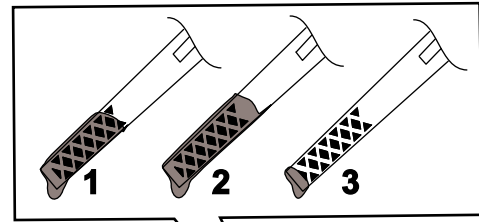

Figure 6
2. Remove the dipstick (Figure 6).
3. **Slowly** pour oil into the oil fill hole, wait a few minutes, and check the oil level on the dipstick by wiping the dipstick clean and then inserting, **but not screwing in**, the oil fill cap into the hole (Figure 6).
**Note:** Fill the engine crankcase with oil until the dipstick indicates that the engine oil level is correct as shown in Figure 6. If you overfill the engine with oil, remove the excess oil as directed in Changing the Engine Oil.